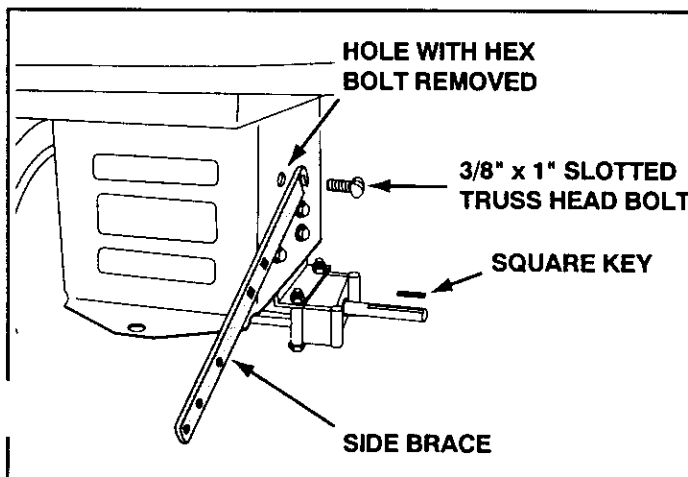

FIGURE 35
NOTE: If there is interference with the hex bolt when using tire chains with extra wide tires, assemble the side braces to the tractor frame using the alternate instructions with figure 35 on page 17.
- Remove the hex bolt from the top hole in the side of the tractor frame as shown in figure 35.
- Assemble the notched end of each side brace to the top hole in the each side of the tractor frame, using the provided 3/8-16 x 1" slotted truss head bolts. See figure 35.